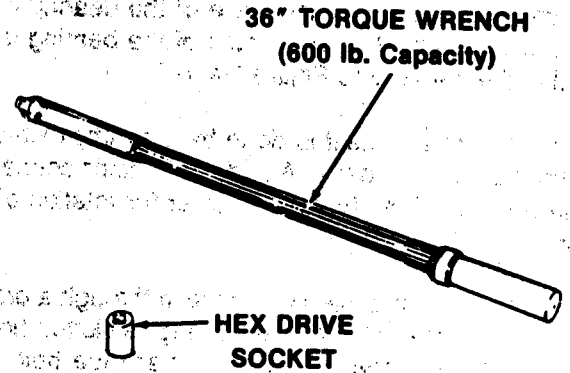
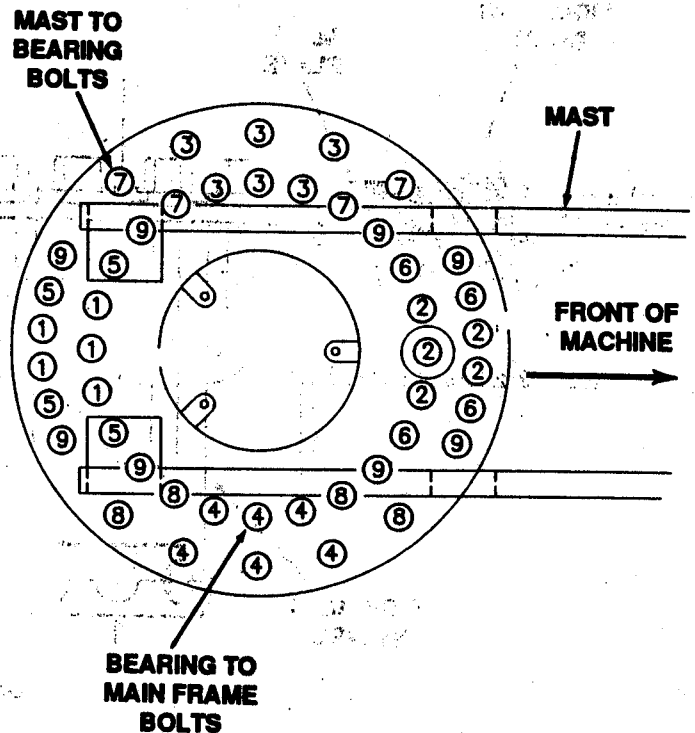

Figure 4. Tools Needed for the Torque Check
Figure 5. Tightening Order for the Mast Bolts
The tools needed for the torque check are shown in Figure 4. Tighten each bolt in the order shown in Figure 5. Use a smooth, firm movement of the torque wrench to get the final torque. Correct torque on the bolts is 200 lb-ft (270 Nm).
4. Figure 5 shows the order for tightening the bolts. Each bolt must first be tightened to a torque of 200 lb-ft (271 Nm) and then loosened a small amount. Next, tighten the bolts again to a torque of 200 lb-ft (271 Nm).
9. Figure 5 shows the order for tightening the bolts. Each bolt must first be tightened to a torque of 200 lb-ft (271 Nm) and then loosened a small amount. Next, tighten the bolts to a torque of 200 lb-ft (271 Nm).